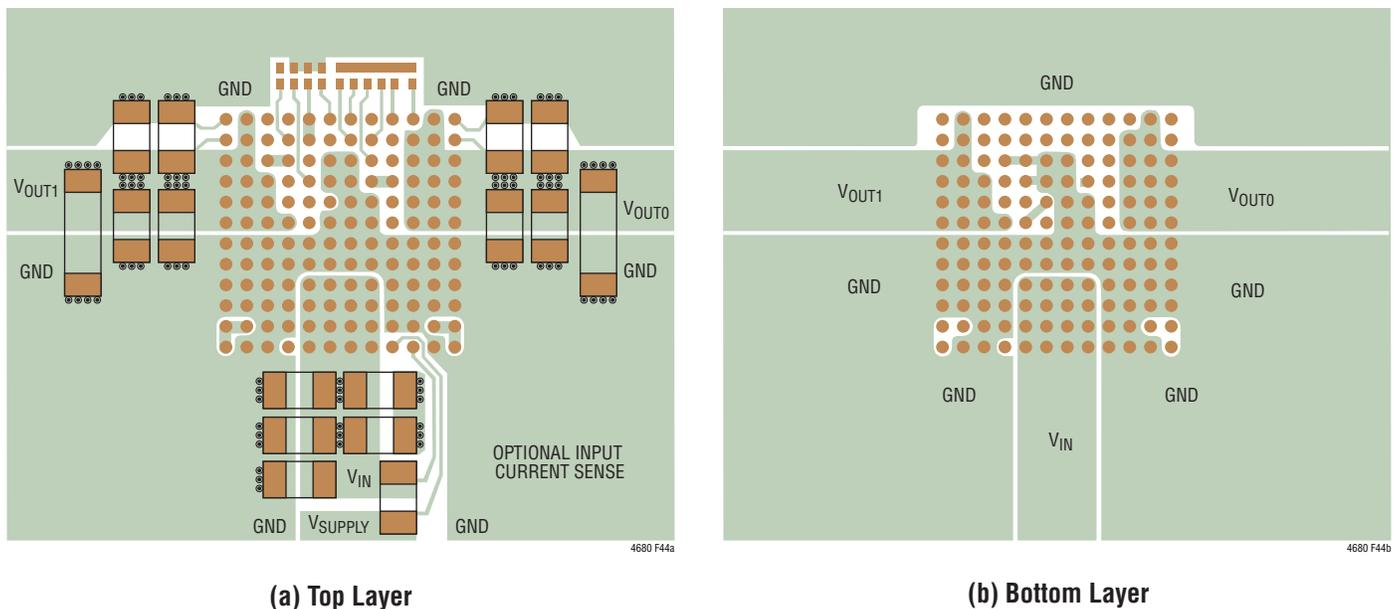

Figure 44. Recommended PCB Layout Package Top View
- Figure 44 gives a good example of the recommended layout.